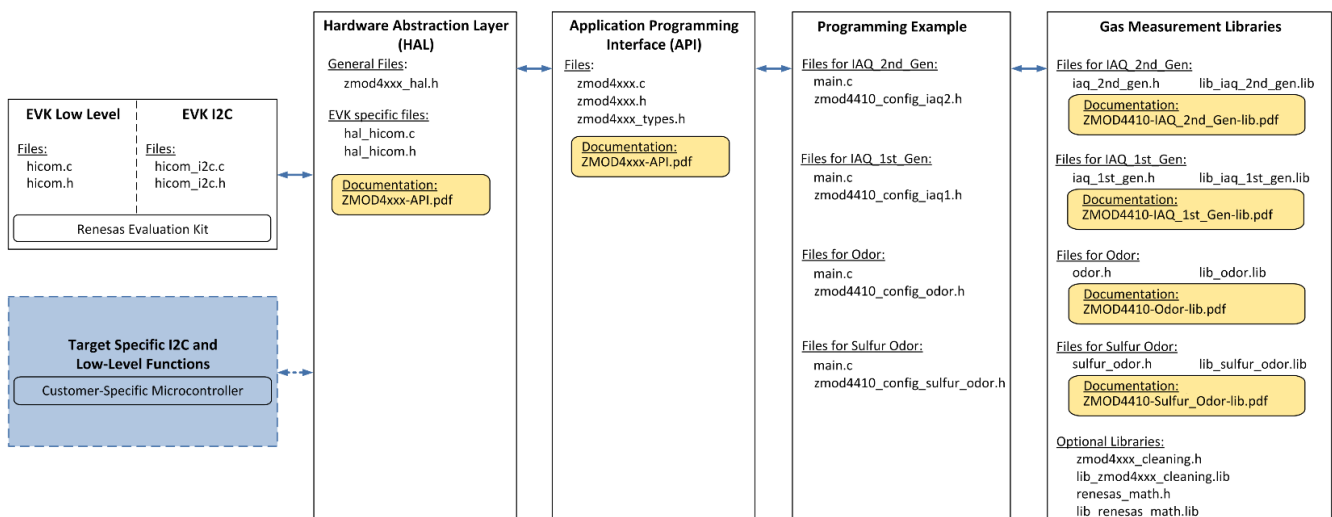

Figure 1. File Overview for ZMOD4410 Firmware
To operate the ZMOD4410 and use its full functionality, five code blocks are required as illustrated in Figure 1:
- The “Target Specific I2C and Low-Level Functions” block is the hardware-specific implementation of the I²C interface. This block contains read and write functions to communicate with the ZMOD4410 and a delay function. If the Renesas EVK is used, files for the EVK HiCom Communication Board are provided with the ZMOD4410 firmware packages. Using the user’s own target hardware requires implementing the user’s target-specific I²C and low-level functions (highlighted in light blue in Figure 1).
To set up a firmware for an Arduino target, Renesas provides the above-mentioned EVK examples also as Arduino examples. These examples have a similar structure as shown in Figure 1 but with a HAL dedicated for Arduino, an Arduino-compatible structure, and Arduino-specific files. One example supports SAMD 32-bit ARM Cortex-M0+ based Arduino-Hardware included in the SAMD Boards library. For example: